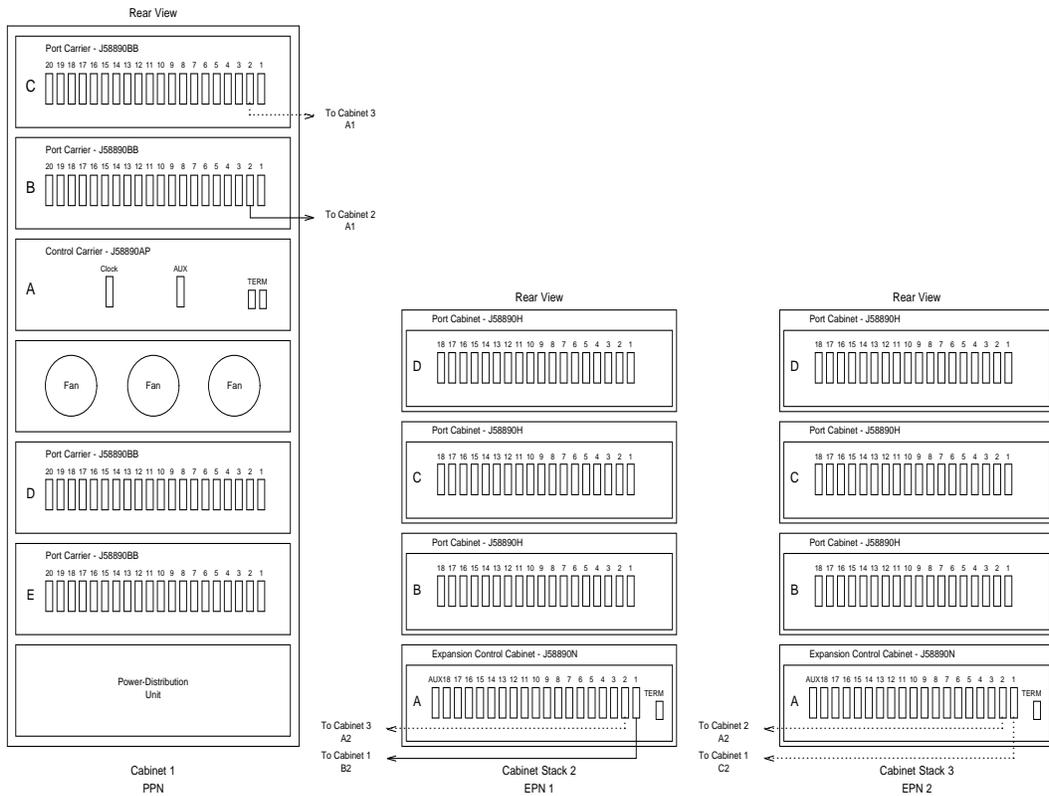
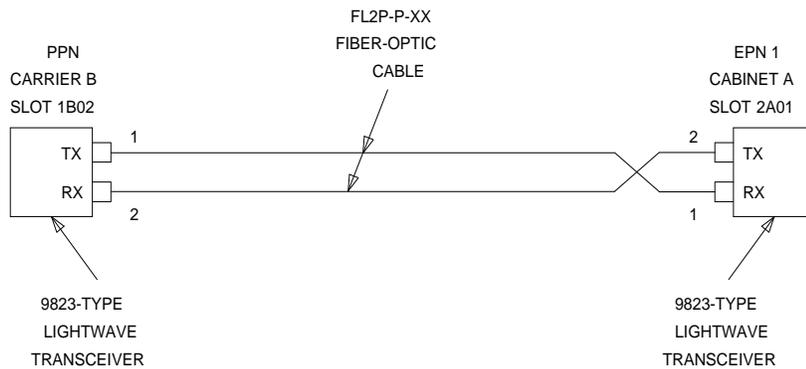
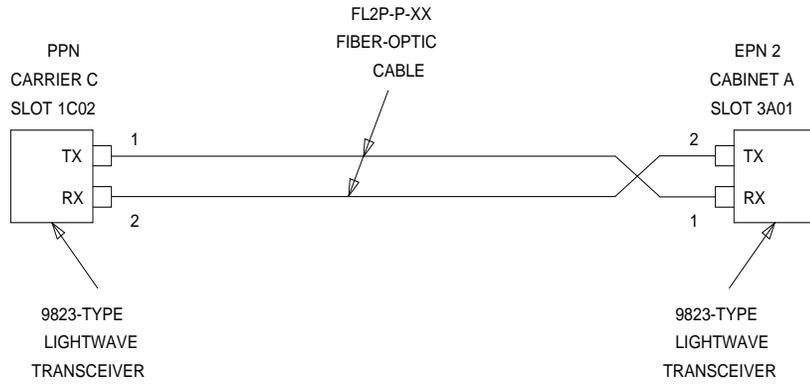
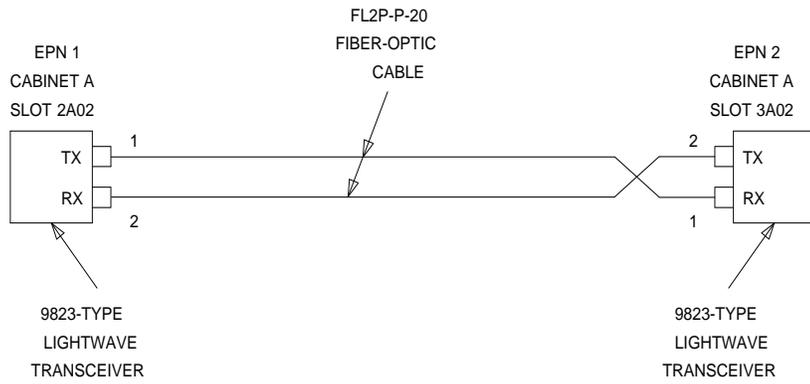

Figure 3-11. Standard-Reliability DEFINITY ECS R5r with Two or Three Port Networks
Figure 3-12. Fiber-Optic Connections PPN to EPN1
Figure 3-13. Fiber-Optic Connections PPN to EPN2
Figure 3-14. Fiber-Optic Connections EPN1 to EPN2
The connectors on the lightwave transceivers are labeled either “TX” (transmit) or “RX” (receive), while the fibers attached to each connector are numbered either “1” or “2.” A viable fiber connection is only made when both fibers in each cable (that is, “1” and “2”) route from the “TX” connector of a port network to the “RX” connector of its adjacent port network. For an example, refer to Figure 3-12.
1. Behind port carrier B of the multicarrier PPN (see Figure 3-11, Figure 3-12, Figure 3-13, and Figure 3-14):